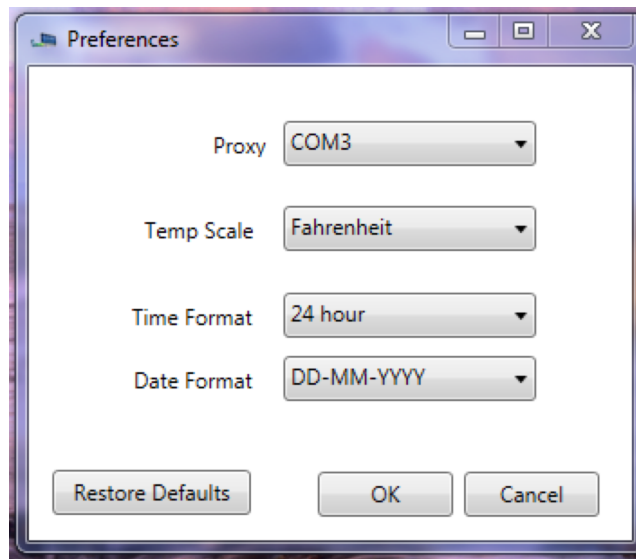

Figure 51
- 2) The following dialogue box will appear (Figure 51).